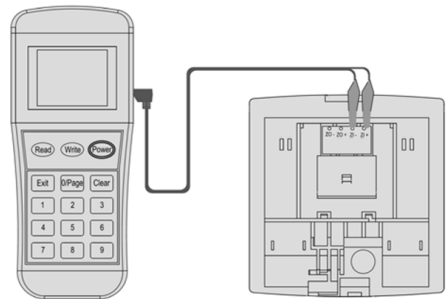

Figure 3
1. Connect the programming cable to ZI+ and ZI-(or ZO+ and ZO-) terminals (Figure 3). Press **“Power”** to switch on the unit.